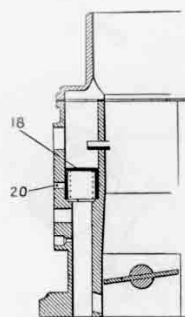
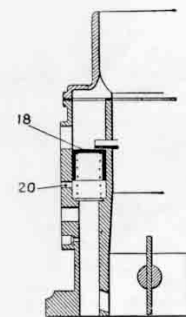

Fig 3
Fig 4
When the engine is running and the spring is warmed by the passage of hot air, the disc valve begins to turn, first taking the position of figure 4 where only port on the disc valve (shaded) is opposite the ports on the face, thus causing a progressive weakening of the mixture, this action continues until the disc valve ports do not communicate with the ports on the face (figure 5). At this point the choke is completely out of action and the engine is idling. At least, when the disc valve is in the position of figure 5, a light spring becomes fixed in a slot of the spindle (2) to keep the disc valve (1) out of action. In order that this spring releases itself from the slot so that the disc valve can take up its working position again, it is necessary to considerably lower the temperature at which the spring is operative. This device aims at avoiding a too rapid or premature return to action of the choke when the engine cools slightly during a brief halt.
When the engine is running the depression acting in the channel (13) withdraws the membrane and frees the communication between (12), (11) and (10), which has the primary effect of weakening the mixture to stop the engine "hunting" through excess fuel. Then as the spring is warmed by the hot air, the disc valve begins to turn, first taking the position of figure 4, where only one port of the disc valve (shaded) communicates with the ports on the face, thus causing a progressive weakening of the mixture and this continues until the disc valve ports do not communicate with any of the ports on the face (figure 5). At this moment, the starter is completely out of action and the engine is idling.
As the spring is warmed by the passage of hot air, the disc valve begins to turn, first taking the position of figure 3 where only one of the ports of the disc valve (shaded) communicates with the orifices on the face, thus causing a weakening of the mixture. After acceleration, the butterfly is open or partly open, the depression in the inlet manifold becomes weak, the piston (18) rises again (figure 4) and the passage of fuel through the large channel (20) is unrestricted. This increase in diameter with a subsequent increase in volume of the mixture to ensure drive away.
As long as the choke is not cut off, the action of the spring continues until the disc valve ports do not communicate any more with the ports on the face (figure 4) and, at this moment the starter is completely out of action.